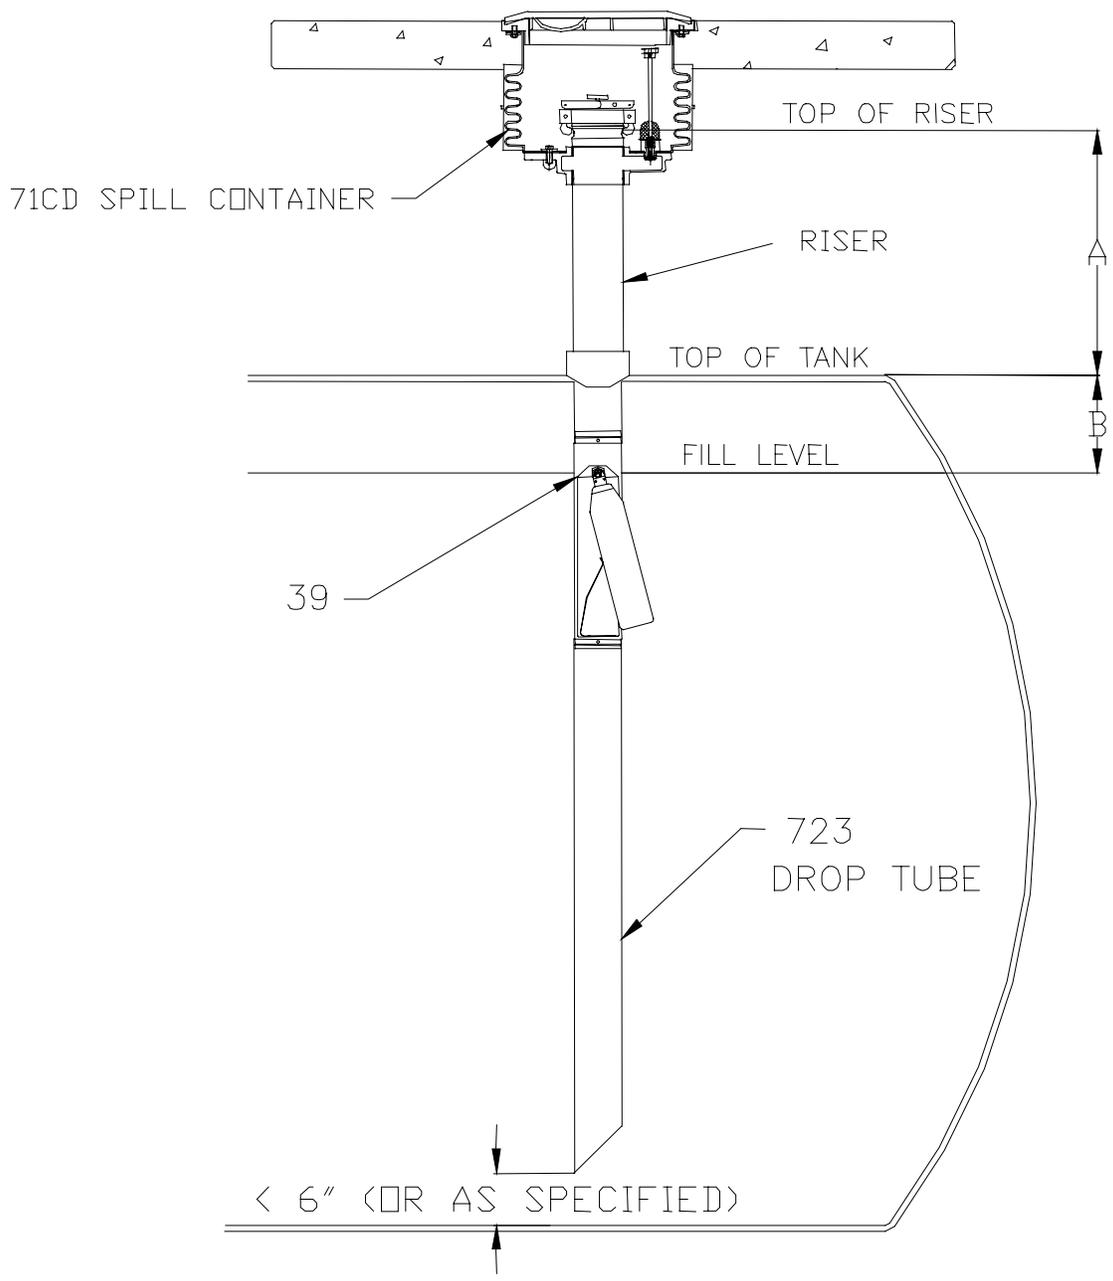

Figure 1
2. Measure the vertical distance from riser pipe lip to top of tank. This will be dimension A as shown in Figure 1.